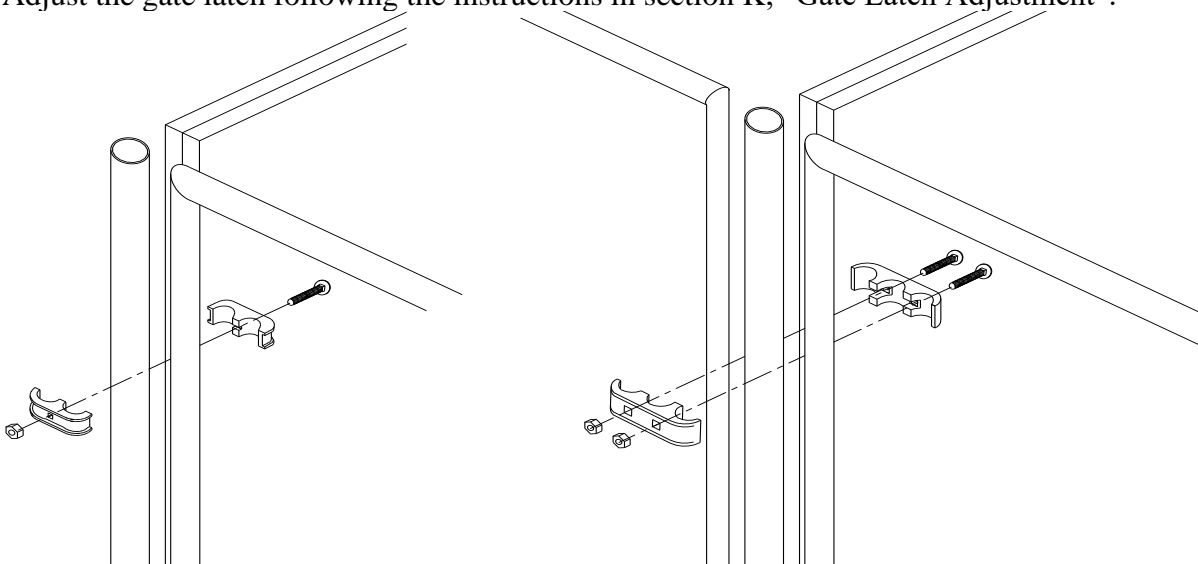

Figure 19.
2. Attach the gate/stall front on the front of each run between the filler pipes with two clamps on each side using the 5/16" x 1-1/2" galv. bolts and nuts provided as shown in Figure 19. Note: It takes two halves to make up one clamp. Attach gates/stall fronts to outside division panels using "panel clamps". All other gates/stall fronts will use "triple clamps". **To help ensure the safety of the animals the round head of the bolt should be assembled toward the inside of the run.** Note: The triple clamps attach two gates/stall fronts together. Therefore, you will have to hang two gates/stall fronts at the same time (see Figures 19 and 20).